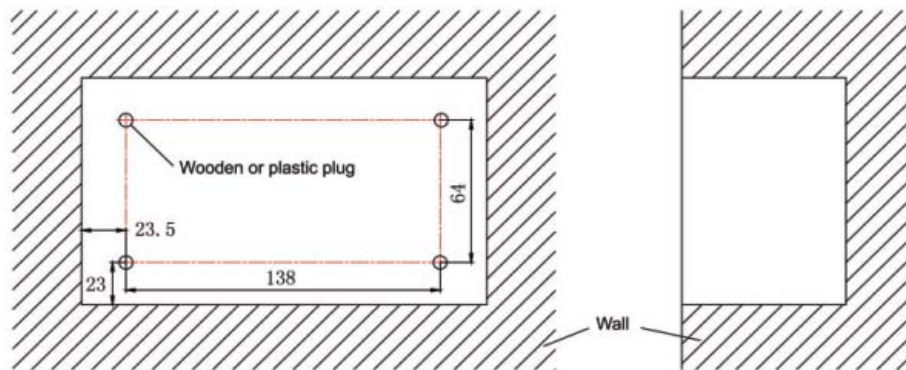

Fig. 3.9 Wall fixing holes diagram
- If the centralised controller is wall mounted, drill a hole of 180 mm x 107 mm x 62 mm and apply 4 suitable connections, according to fig. 3.9.